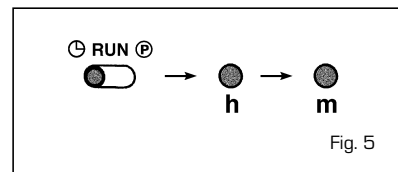

Fig. 5
- **Setting the time (fig. 5)**